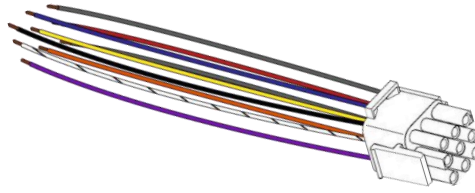

Figure 2 – 9-Pin (3x3) Adapter
- 1x 9-Pin (3x3) adapter (Figure 2)
Micro-Air provides a 9-pin harness (Figure 2) that will be used to interface between EasyTouch and the RV manufacturer's wires. One side plugs into EasyTouch RV while the other wire-end side is used to make your new wire connections. You will have to source or reuse electrical connectors to make these connections.